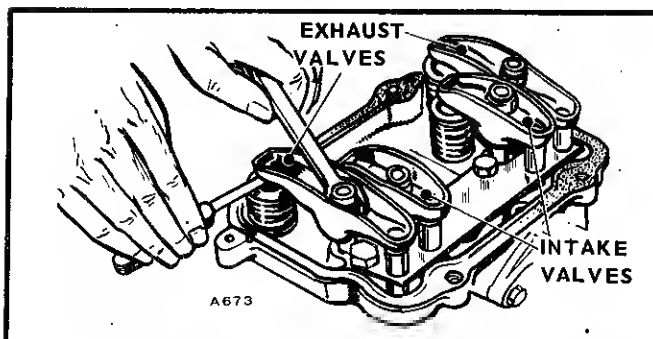

FIGURE 55. ADJUSTING VALVE CLEARANCE
4. Using a feeler gauge, check the clearance between the rocker arm and the valve (see Fig. 55). Increase or reduce the clearance until the proper gap is established adjusting with the locknut which secures the rocker arm to the cylinder head. Refer to Table 3 for correct valve clearance setting for your particular engine.